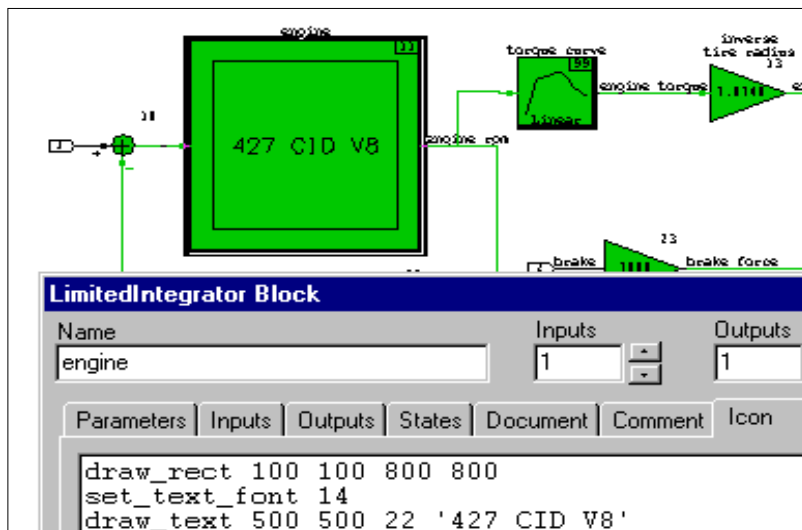

FIGURE 16-1 A User-Defined Icon and Its Description On the Icon Tab
- Click **OK** to release the block and compile the icon. Place the cursor over the block and press the **S** key until the icon type changes to **Custom**. See Figure 16-1 for the appearance of the new icon in the block diagram, along with the Icon tab contents.